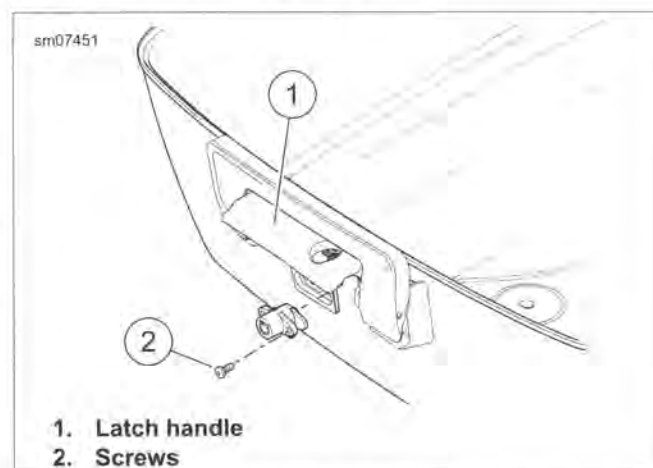

Figure 2-123. Latch Handle and Lockset Assembly
1. See Figure 2-123. Open latch handle (1) completely.
2. Remove two screws (2).
1. See Figure 2-123. Orient lock with key notches toward the top. Secure with two screws (2).